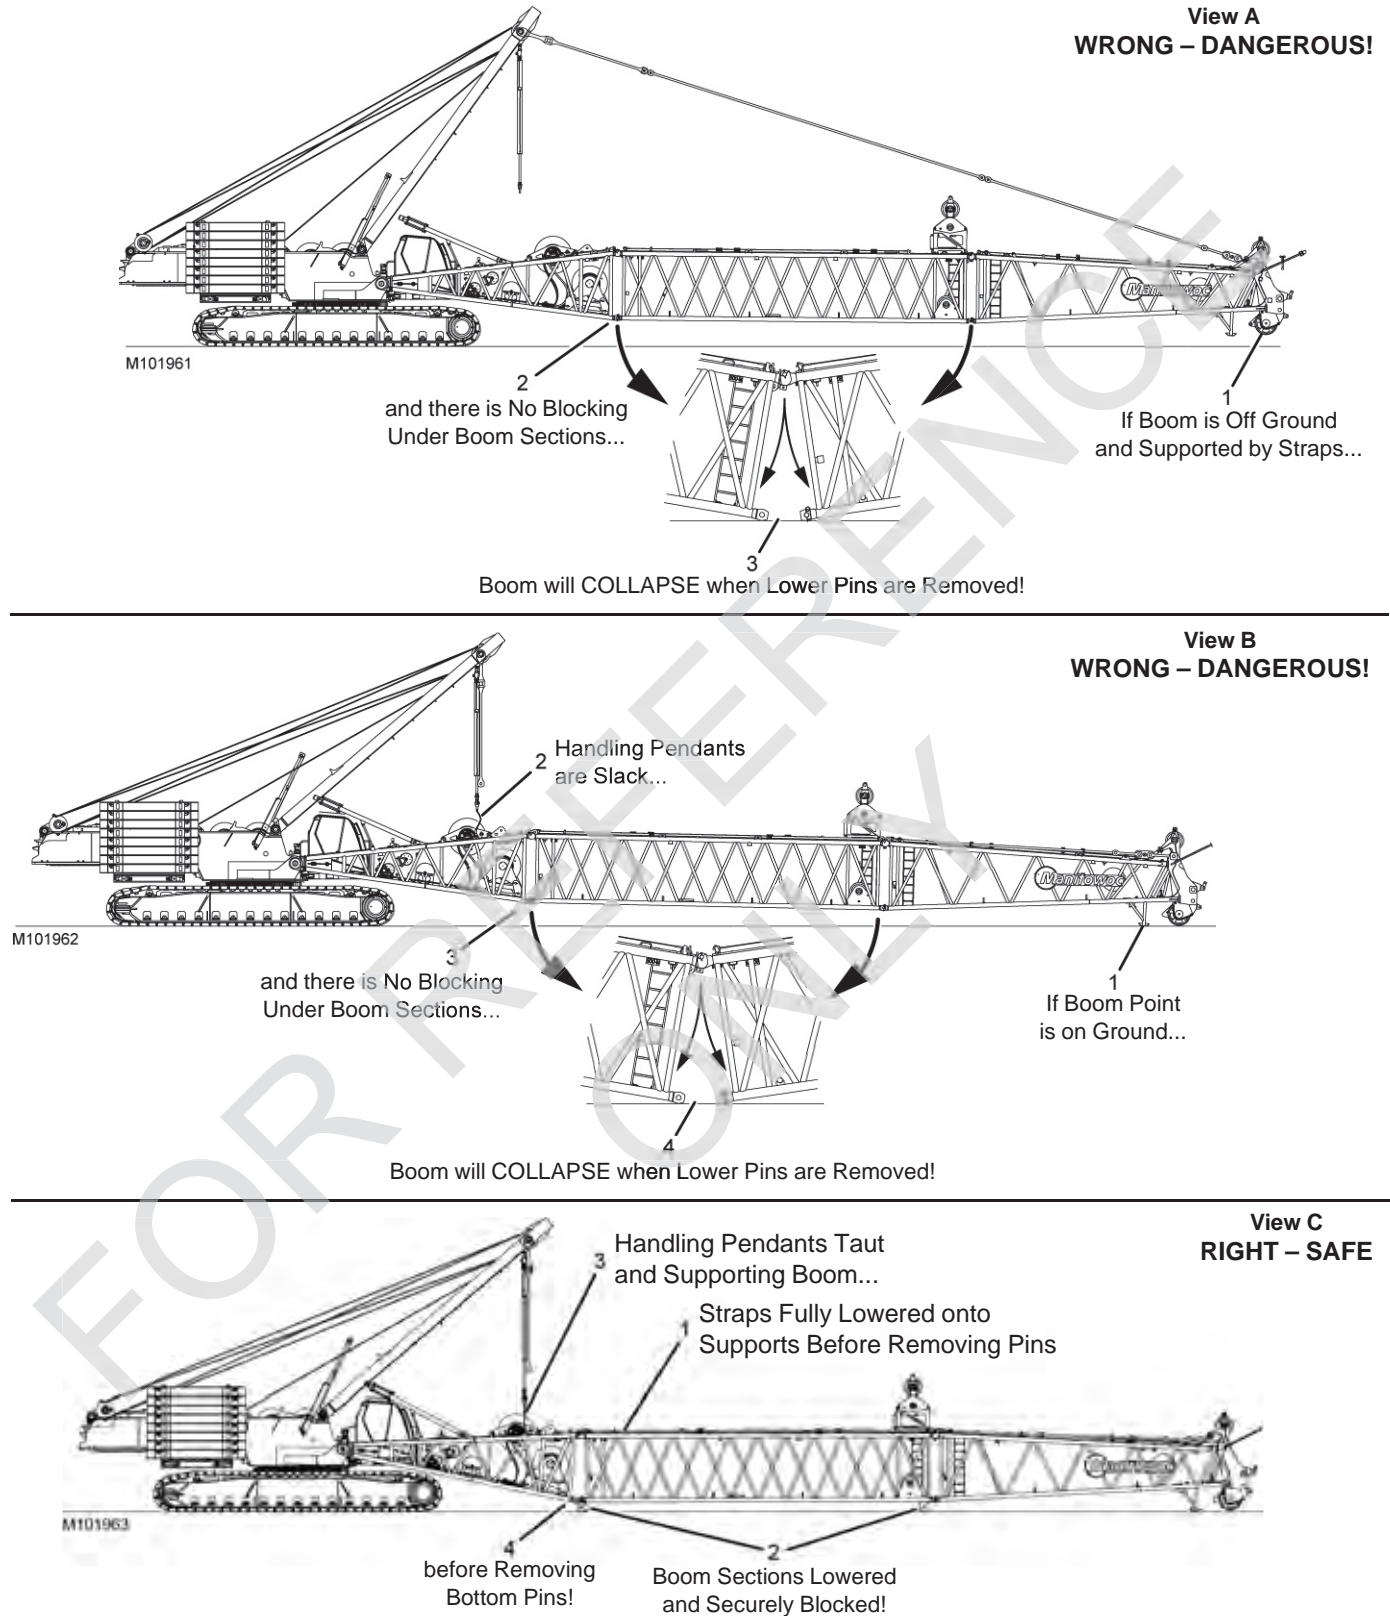

Figure 2-4. Boom Disassembly
- Do not remove bottom connecting pins from any boom section when boom is supported by straps as shown in Figure 2-4, View A.
- Do not remove strap connecting pins until straps are fully lowered into supports as shown in Figure 2-4, View C.
- Do not remove bottom connecting pins from any boom section when boom point is resting on ground and handling pendants are slack as shown in Figure 2-4, View B.
- Never work or stand inside boom unless it is lowered and securely blocked as shown in Figure 2-4, View C.